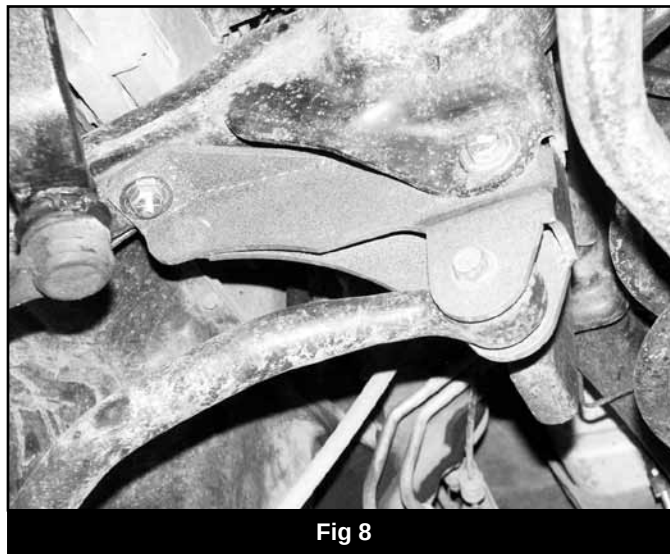

Fig 8
30. Install the new track bar bracket (01285) to the OE frame mount with the 5/8" x 3" bolt, nut and washers (BP 642). Attach the end of the bracket to the frame crossmember with the 9/16" x 3" bolt, nut and washers from bolt pack #642. (Fig. 8) Torque the 9/16" hardware to 100 ft-lbs and 5/8" hardware to 150 ft-lbs.